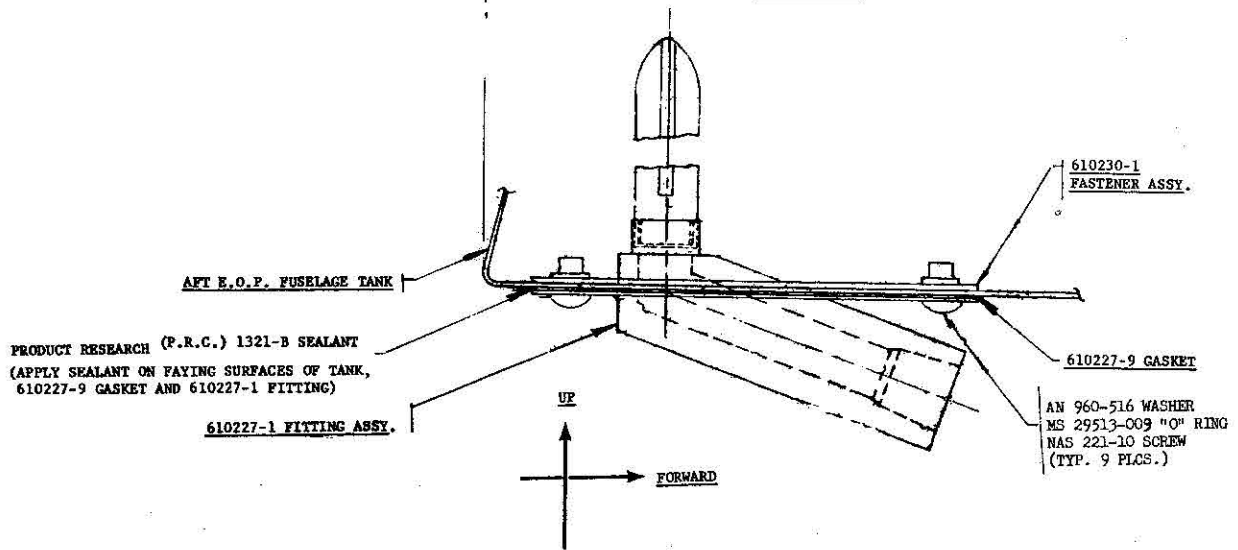

FIGURE 2
4. Position P/N 610227-1 fuel tank fitting assembly on 1.30 X 2.80 cutout as shown in Figure 2.
5. Apply PRC 1321-B sealant, install P/N 610227-9 gasket, NAS 221-10 screw, AN960-516 washer, and MS 29513-009 O-ring as shown and noted in Figure 2.